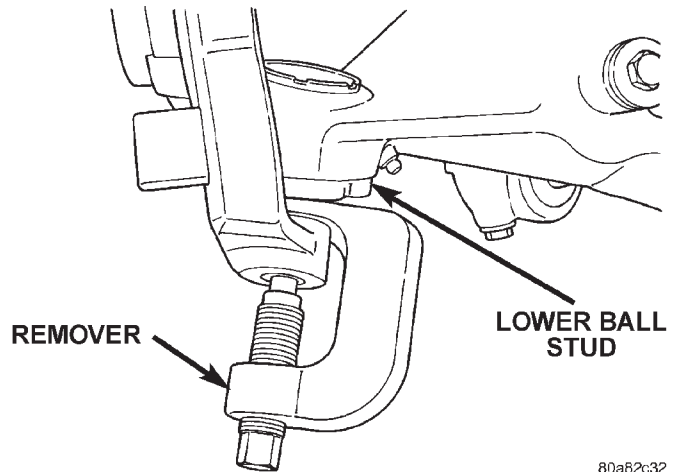

Fig. 6 Lower Ball Joint
(8) Remove the lower ball joint cotter pin and nut. Separate the ball joint from the knuckle with Remover C-4150A (Fig. 6) and remove the knuckle.
(9) Remove the hub/bearing from the steering knuckle.